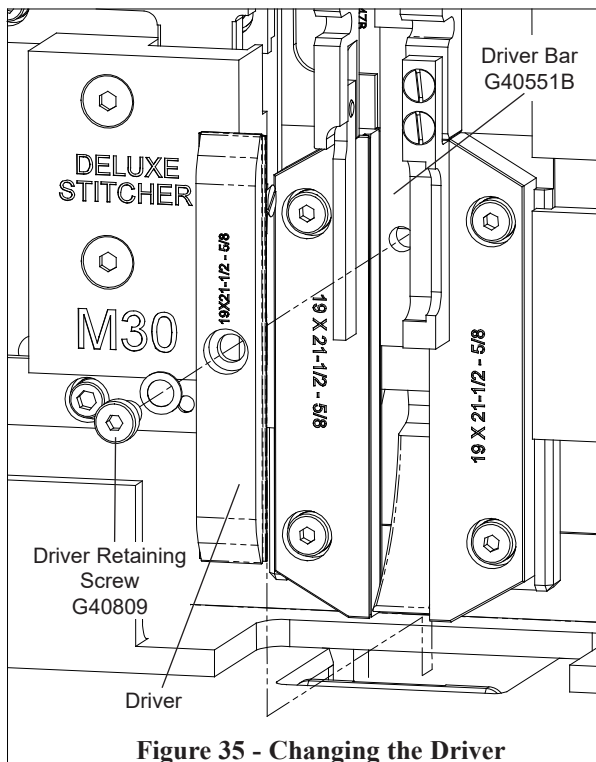

Figure 35 - Changing the Driver
1. First, if the Driver Bar and Formers are still attached, remove them now (Figs. 35 & 36)